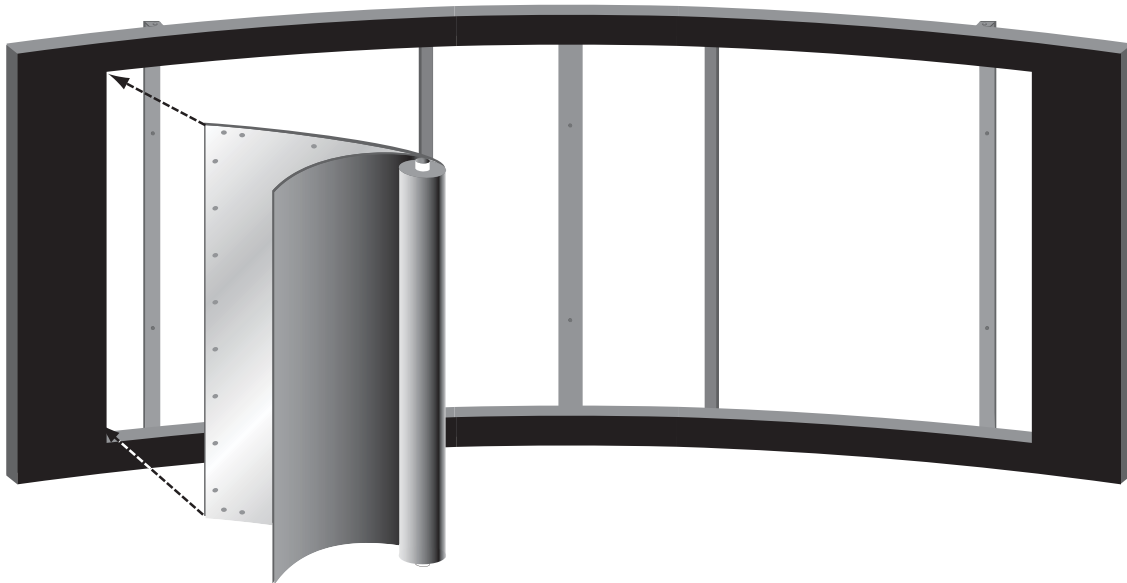

Figure 2: Unrolling the Screen for Attachment to the Frame
3. While supporting the screen roll, snap the screen into the frame starting at the top left. Gently allow the screen to stretch onto the snaps. Do not jerk, wrinkle or crease the screen material, as it can be damaged. Refer to Figures 2 and 3. Attach the snaps on the top corners and top horizontal section first, unrolling the screen as you go.